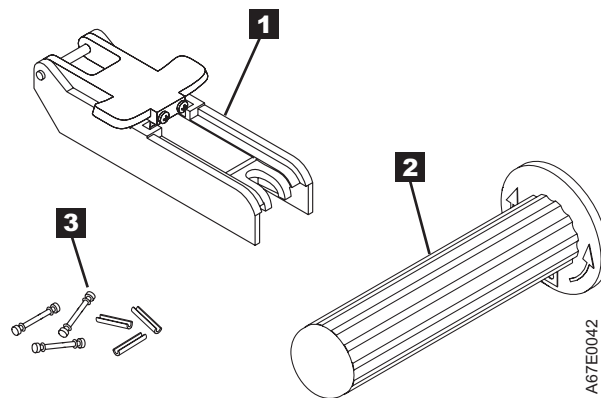

Figure 43. Leader Pin Reattachment Kit
- **Leader pin attach tool** (see **1** in Figure 43). A plastic brace that holds the cartridge door open.
- **Cartridge manual rewind tool** (see **2** in Figure 43). A device that fits into the cartridge's hub and lets you wind the tape into and out of the cartridge.
- **Pin supplies** (see **3** in Figure 43). Leader pins and C-clips.